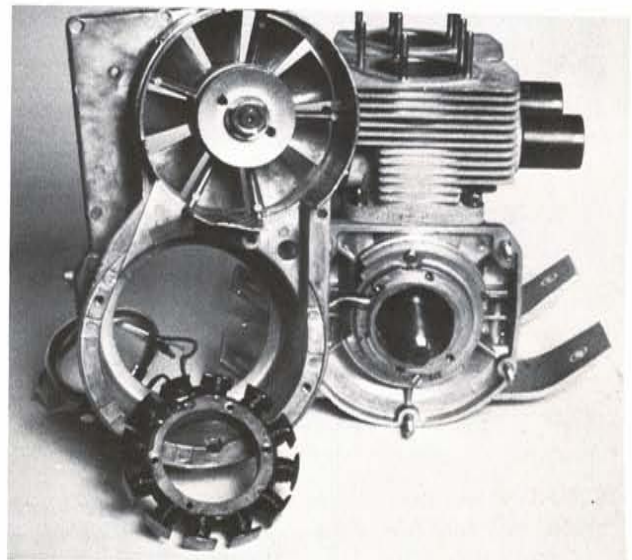

FIG. 16
15. The ventilator housing is secured at five points. Remove all retaining nuts. Then remove housing and stator. (Fig. 16)